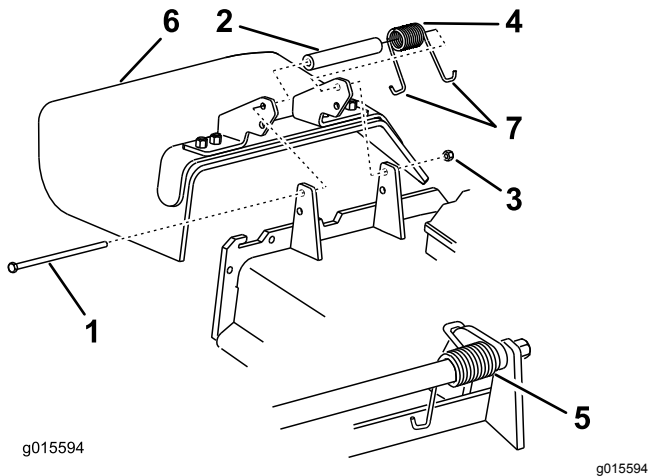

Figure 107
- Remove the locknut, bolt, spring, and spacer holding the deflector to the pivot brackets (Figure 107).
**Note:** Ensure that a J-end of spring is installed behind deck edge before installing the bolt as shown in Figure 107.
- Place a J-hook end of spring around grass deflector (Figure 107).